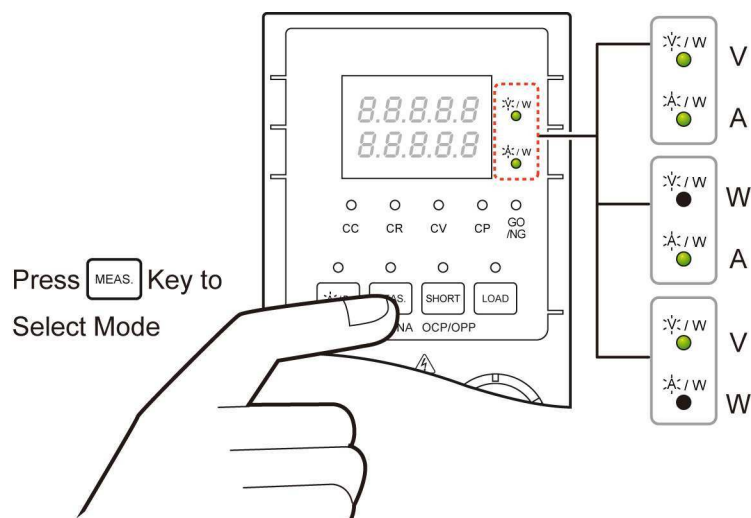

Figure 4-11 7-Segment Display for MEAS. V / A / W Switch
Press **MEAS.** key can switch the measurement modes via the 7-segment display. There are 3 types of measure modes - Mode 1: Voltage (V) and Current (A); Mode 2: Power (W) and Current (A); Mode 3: Voltage (V) and Power (W), see Figure 4-11.